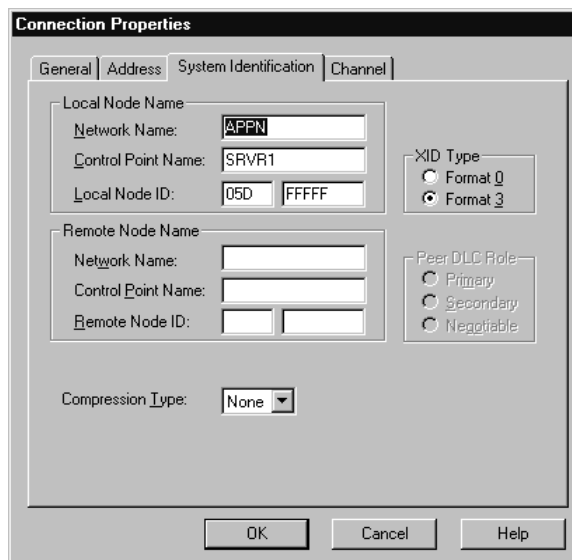

Figure 8-16. System Identification Dialog Box
5. Click on the **System Identification** tab (Figure 8-16).